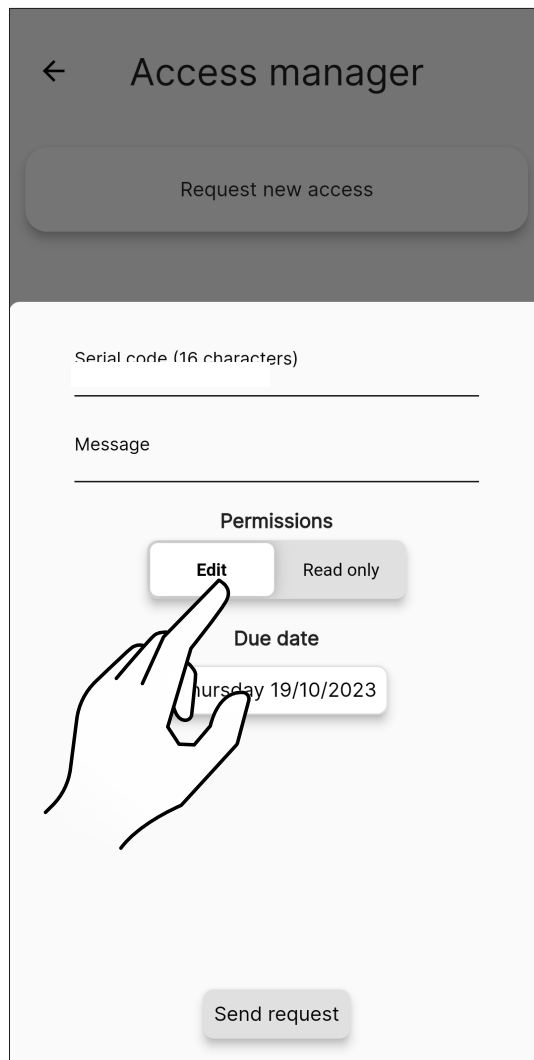

Fig. 30
- in "Permission" (Fig. 30) select: